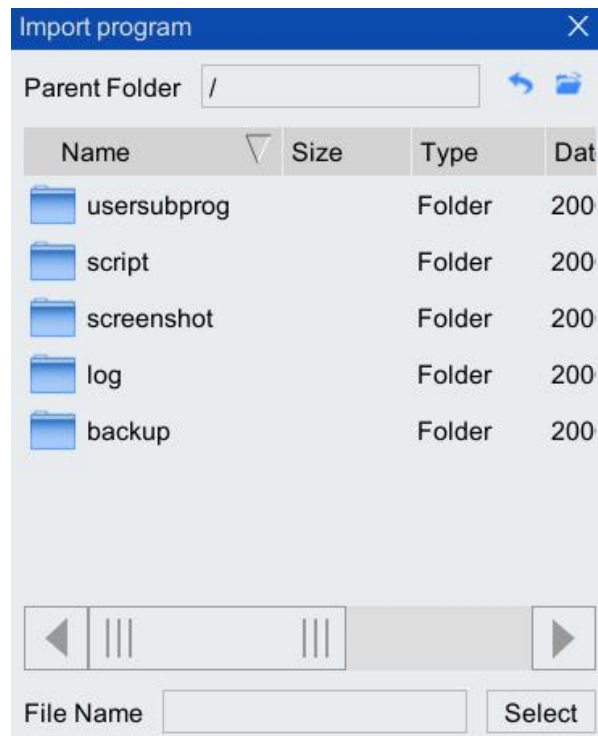

Figure 7-8 "Import configuration" list box
- Step1. On the main interface of the teach pendant, click "File > Restore Backup > Configuration File" option, and the "Import Configuration" list box as shown in Figure 7-8 will pop up.